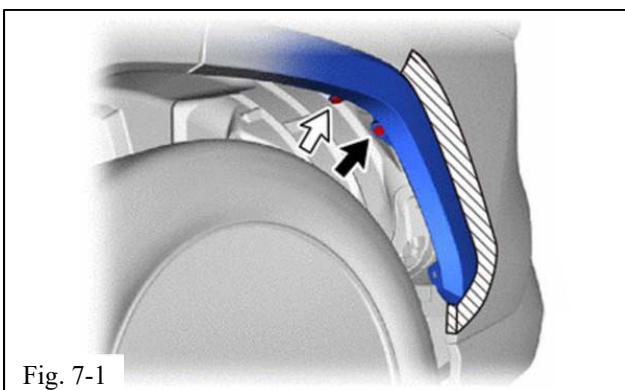

Fig. 7-1
- (1) Apply protective tape around the quarter outside molding (Fig. 7-1).
- (2) Remove the screw (white arrow, Fig. 7-1).
- (3) Remove the clip (black arrow, Fig. 7-1).